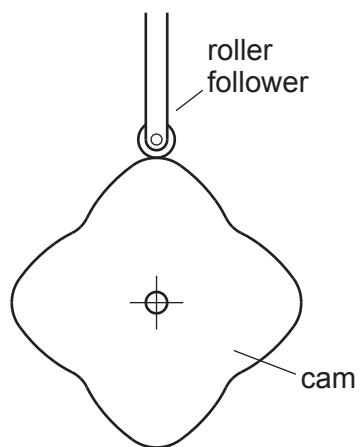

Fig. 11.1
- (ii) Fig. 11.1 shows the profile of a cam and a follower.